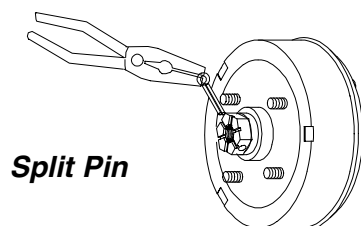

Figure 4.12.2
- b) Straighten and remove the split pin from the axle nut. (See Figure 4-12.2).